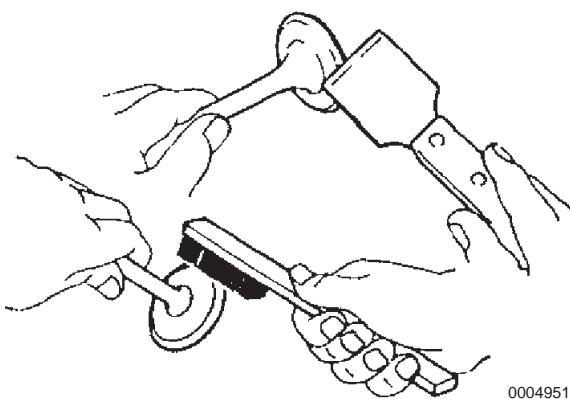

Figure 5-26
1. Remove all carbon deposits from the valves using a scraper and wire brush (**Figure 5-26**).